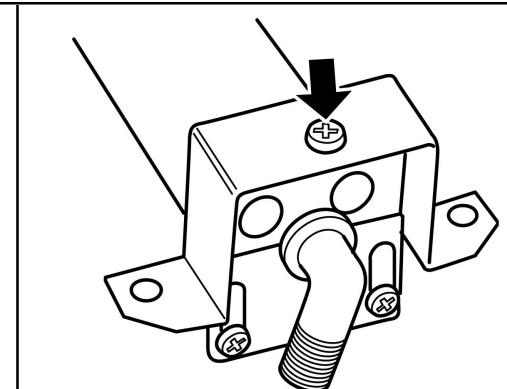

Figure 28. Main burner injector removal
(See figure 28).
2. Remove the burner clamping screw (See figure 28).